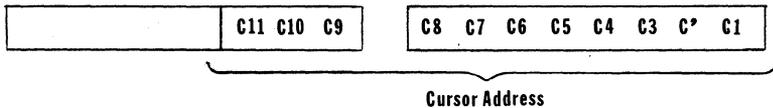

Figure 2.9 CURSOR ADDRESSING
5. Cursor Addressing - Two bytes are transmitted between the controller and a terminal to indicate the cursor address. The two bytes are always transmitted as a pair in a block read or write. The information content is given in Figure 2.9 Cursor Addressing.